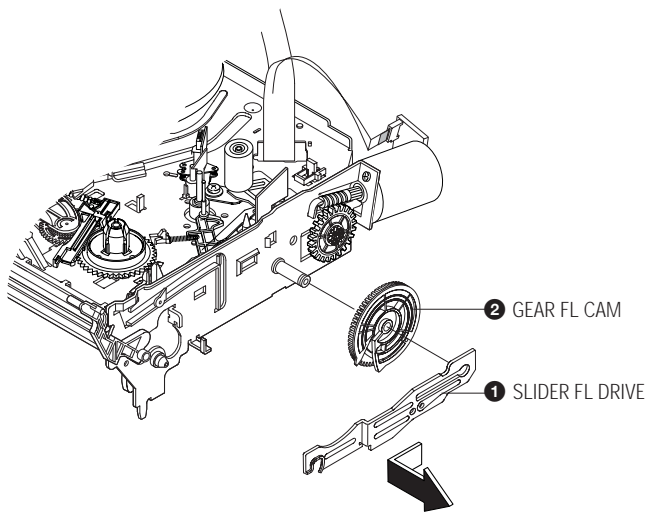

Fig. 2-13 Slider FL Drive Removal
- 1) Pull the Slider FL Drive ❶ to the front direction.
- 2) Remove the Slider FL Drive ❶ in the direction of arrow. (Refer to Fig. 2-13)
- 3) Remove the Gear FL cam ❷.
**Note:** When reinstalling be sure to reassemble Slider FL drive ❶ after you insert the Boss of Lever FL ARM-R in Groove of Slider FL drive ❶.
**Assembly:** Align the Gear FL Cam ❶ with the Gear worm wheel Post as shown drawing. (Refer to Timing point)